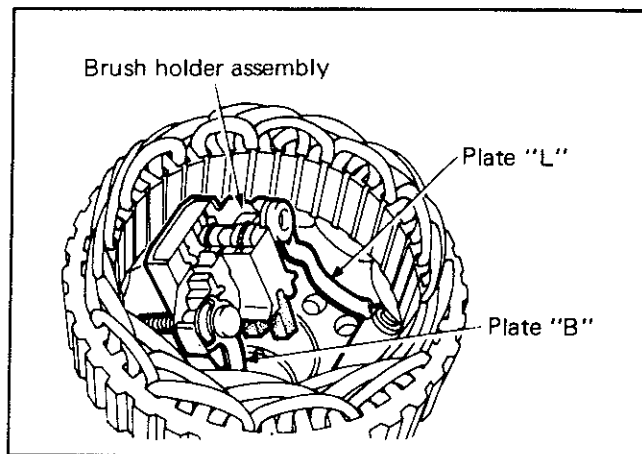

Fig. 12—Replacing brushes
- (1) When only a brush or brush spring is to be replaced, it can be replaced without removing the stator, etc. With the brush holder assembly raised as shown in Fig. 12, unsolder the pig-tail of the brush.